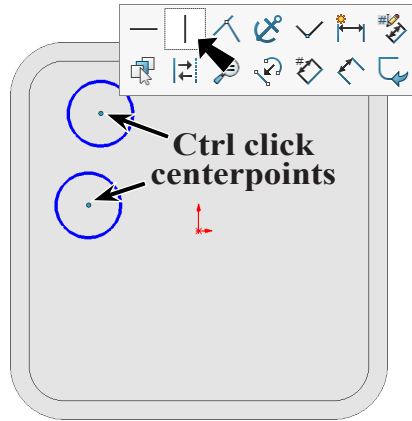

Fig. 18
Step 7. **Ctrl click both circle centerpoints** to select both. Release Ctrl key and click **Make Vertical**  on the context toolbar, **Fig. 18**.